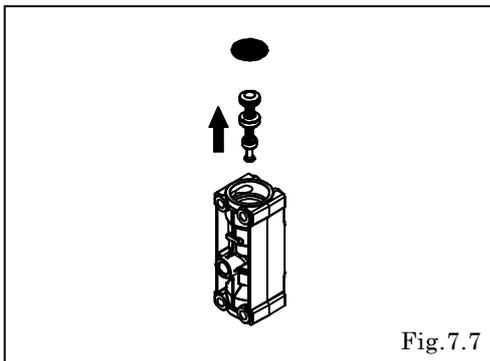

Fig.7.7
- Remove the cushion, and then push out the spool assembly from opposite side. [Fig.7.7]